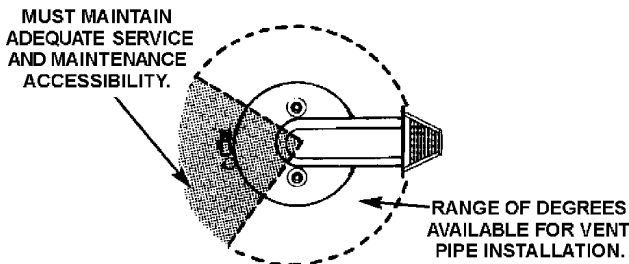

FIGURE 8.
- The location selection must provide clearances for servicing and proper operation of the water heater. See Figure 8.